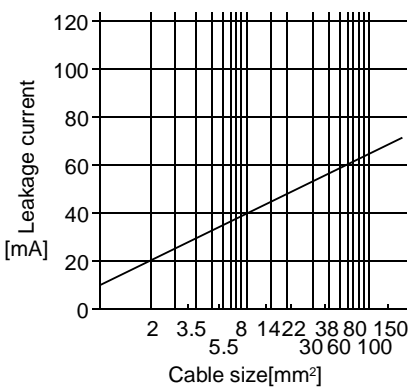

Fig. 13.1 Leakage current example (I_{g1}, I_{g2}) for CV cable run in metal conduit
- I_{g1}: Leakage current on the electric channel from the leakage current breaker to the input terminals of the servo amplifier (Found from Fig. 13.1.)
- I_{g2}: Leakage current on the electric channel from the output terminals of the servo amplifier to the servo motor (Found from Fig. 13.1.)